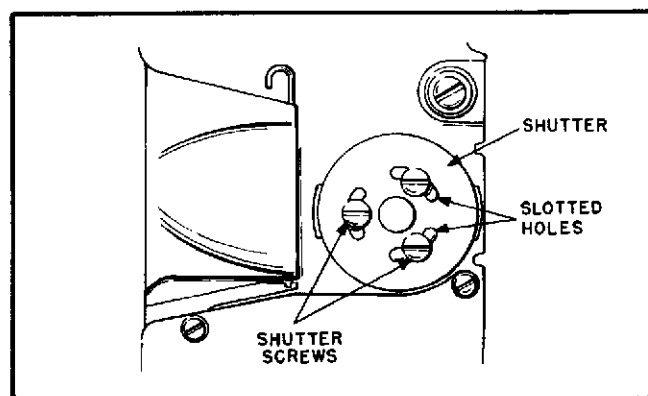

Figure 4-8. Correcting Travel Ghost
b. If travel ghost is seen at the top of the picture, the shutter is lagging behind the intermittent mechanism. To correct this condition, loosen the three binder head screws holding the shutter to the shutter shaft (figure 4-8) and rotate the blades slightly in a clockwise direction. Tighten screws after adjustment.